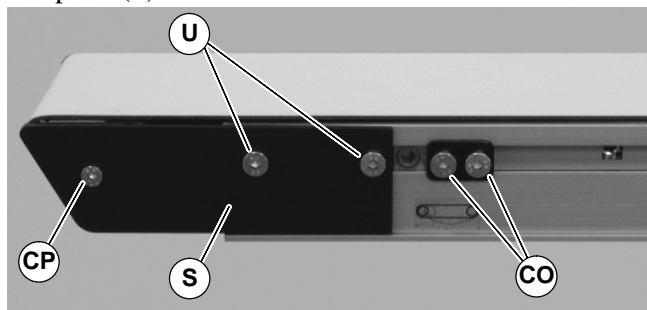

Figure 57
2. On one side of conveyor, use a 3 mm and 4 mm hex-key wrench to remove head plate fastening screws (CP & U of Figure 57) and remove head plate (S).
4. After replacing bearings, re-install head plate (S of Figure 57). Use a 3 mm hex-key wrench to tighten one (1) fastening screw (CP) to 3.4 Nm. Leave two (2) fastening screws (U) loose for belt tensioning.